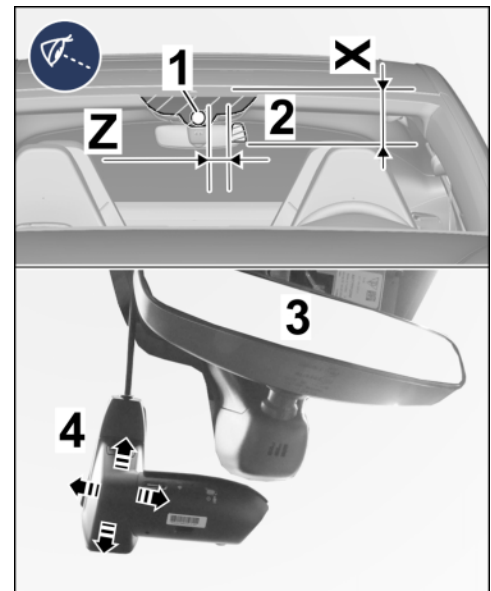

Figure 7
2.1.3 Copy dimensions X and Z on the windscreen (⇒ *Figure 7-top-*).
2.1.4 Position front camera with retainer plate in the vehicle at the marking on the windscreen (⇒ *Figure 7 -Arrow-*).